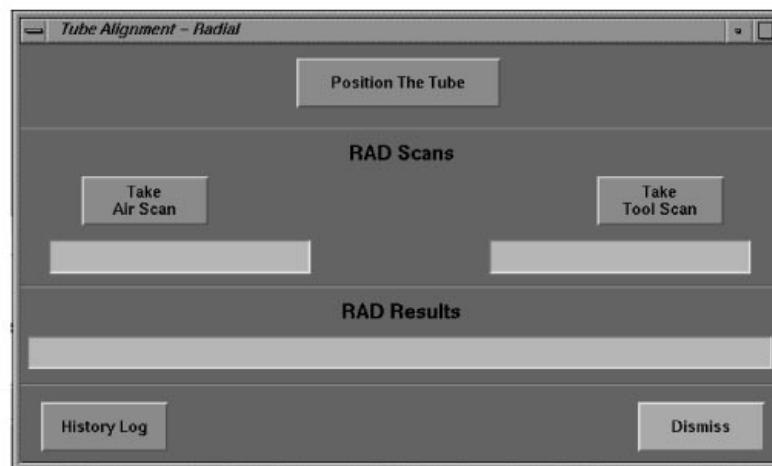

Figure 3-17 ADVANCED RADIAL ALIGNMENT SCREEN
- 3.) Select RADIAL ALIGNMENT. Refer to Figure 3-17.